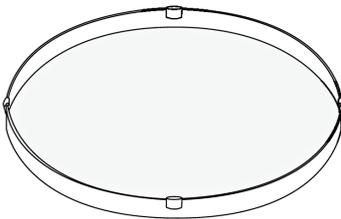

FIGURE 7
Step 7. Divide each adhesive bead strip in half. (Adhesive bead strips are in the clear self-closing bag). Place strips on the edge of the grille as shown in figure 7. Reinstall the grille on the speaker.
Step 13. Divide each adhesive bead strip in half. (Adhesive bead strips are in the clear self-closing bag). Place strips on the edge of the grille as shown in figure 7 on page 10. Reinstall the grille on the speaker.